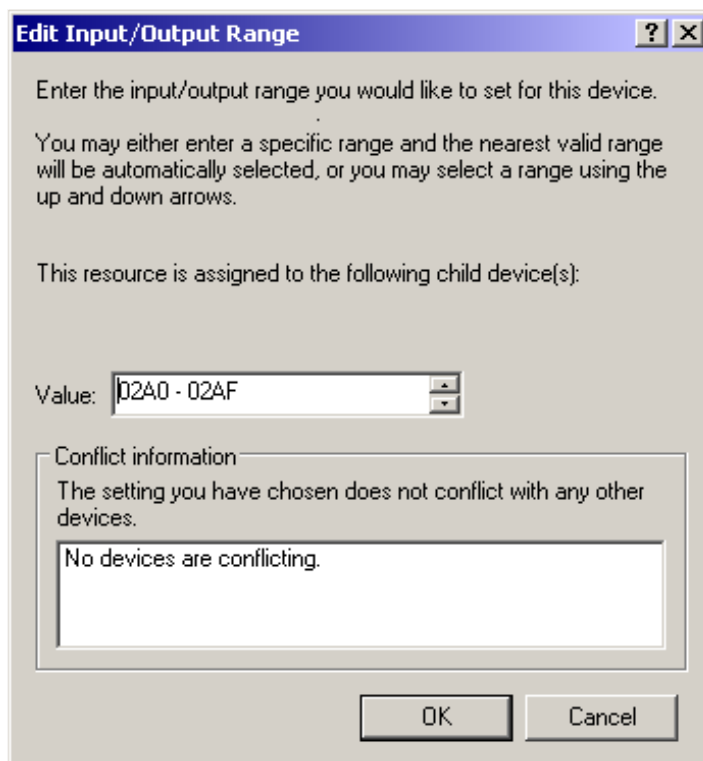

FIGURE 199. Edit Input/Output Range window
38. The window in Figure 199 appears with the current values in the Value field.